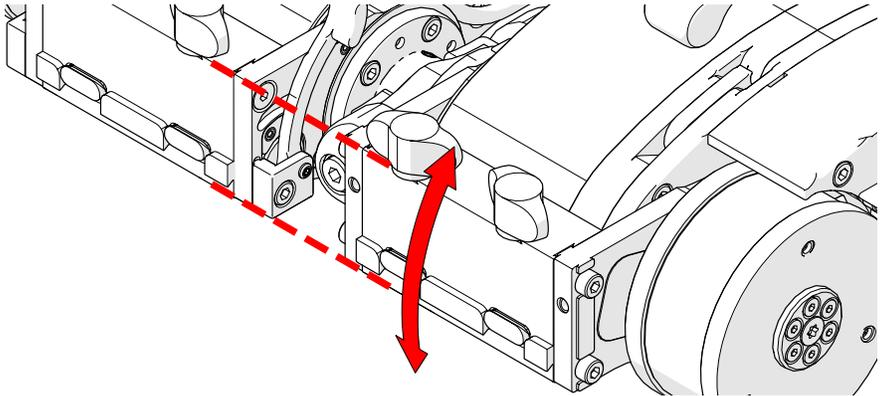

Fig. 25 - Align left swivel mount with right swivel mount
5. Align the left drive module's swivel mount with the right drive module's swivel mount (Fig. 25).